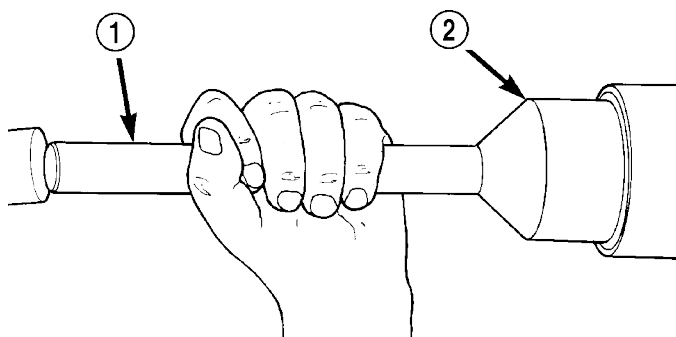

Fig. 38 PINION SEAL INSTALLER
(1) Apply a light coating of gear lubricant on the lip of pinion seal. Install seal with an appropriate installer (Fig. 38).